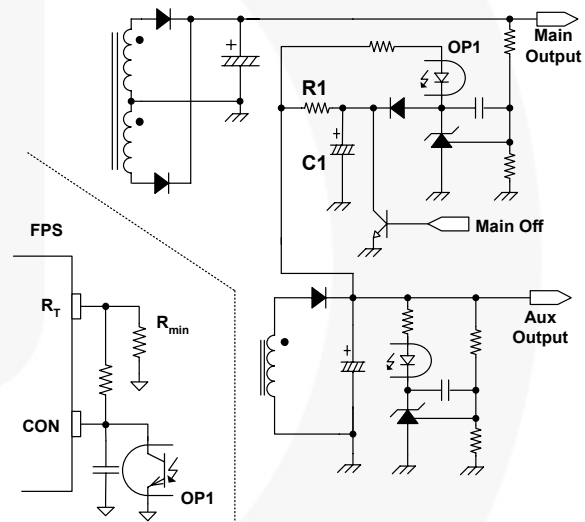

Figure 23. Remote On / Off Circuit
**Remote On / Off:** When an auxiliary power supply is used for standby, the main power stage using FSFR-series can be shut down by pulling down the control pin voltage, as shown in Figure 23. R1 and C1 are used to ensure soft-start when switching resumes.